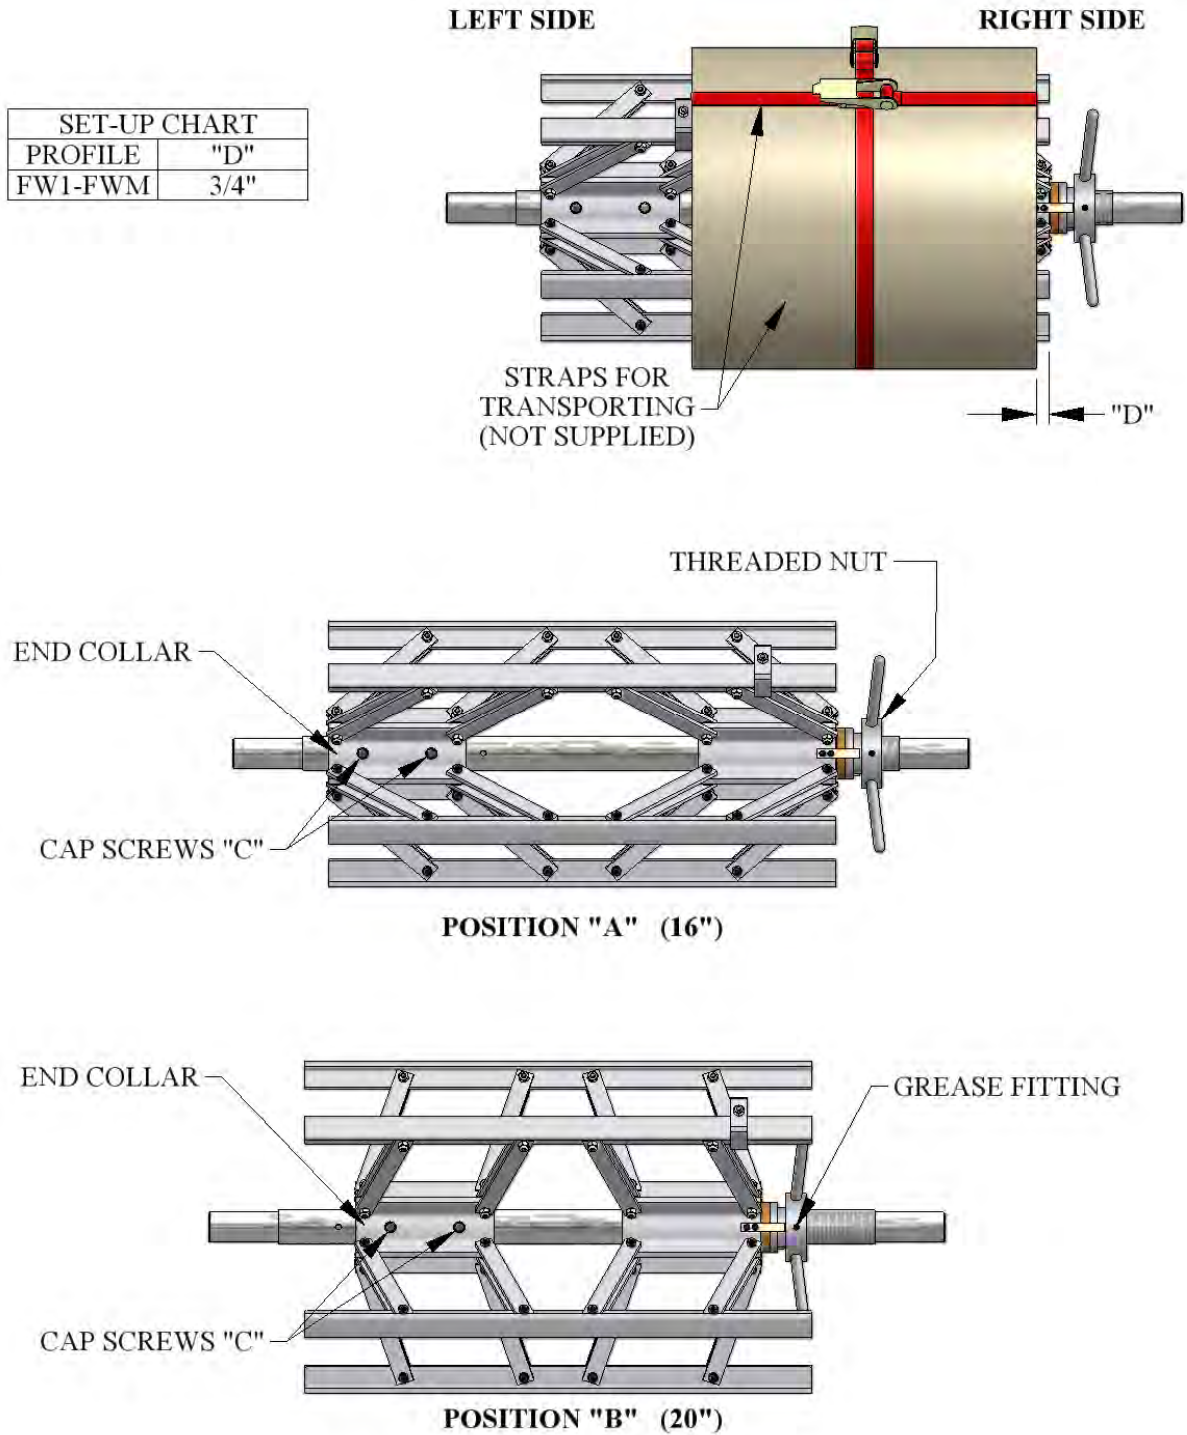

Figure 10: Expandable Arbor Set-Up
(Figure 10)
4. Using the Reel Set Up Chart, (Figure 10), find the “D” dimension that corresponds to the profile being used.
5. Before transporting the loaded Expandable Arbor, using a strap or rope, secure the coil around the outside edges through the inside diameter to prevent the coil from telescoping (Figure 10).